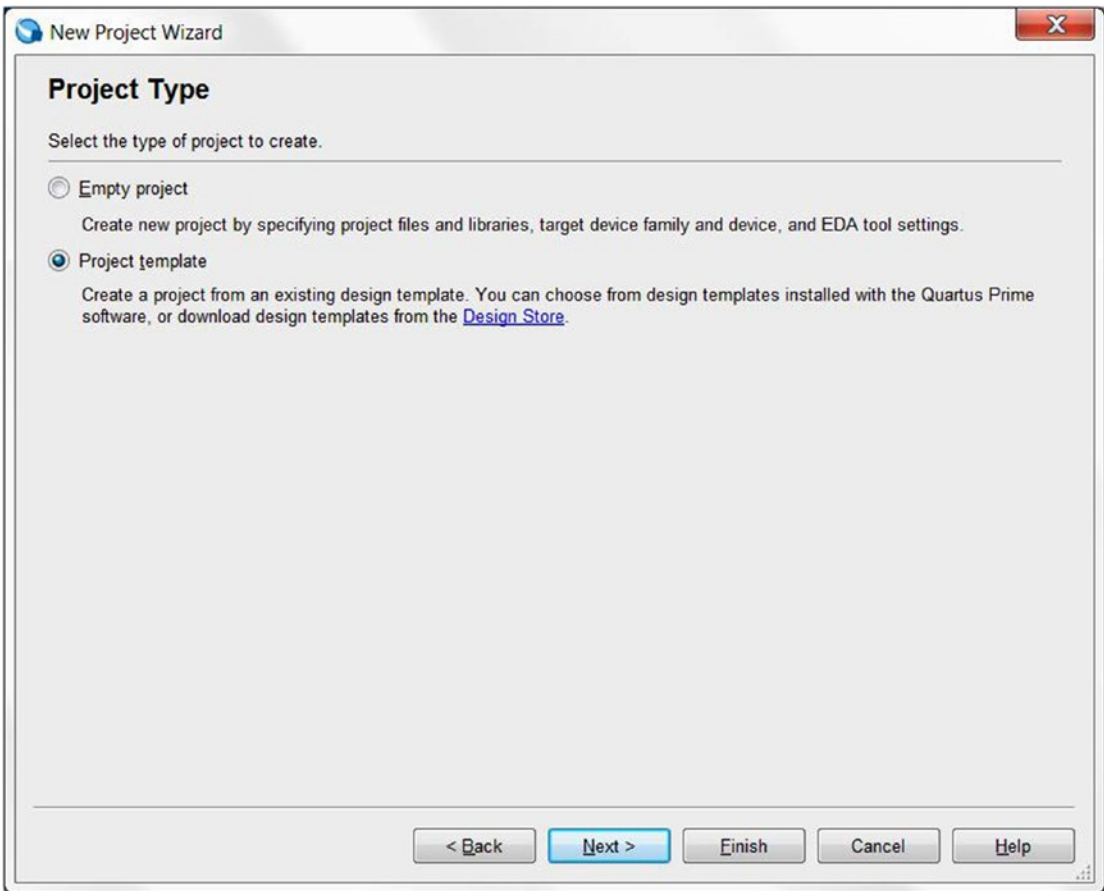
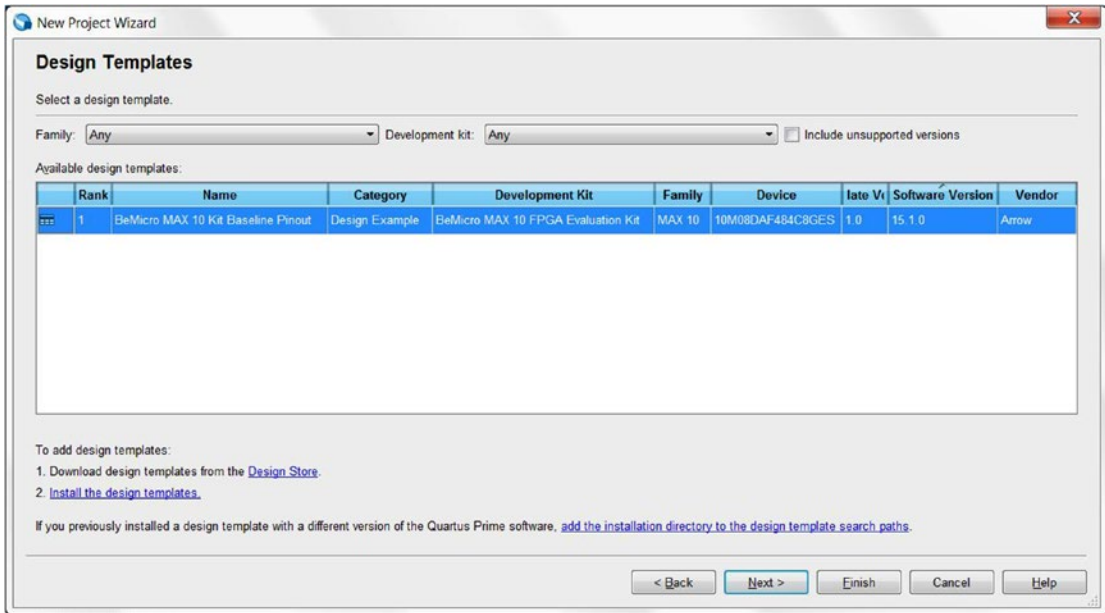

Figure 4-5. Quartus Prime New Project Wizard dialog box—Project Type
Figure 4-12. *New Project Wizard—Design Templates with BeMicroMAX10 kit Baseline Pinout template install*
5. Select **Project template** and then click **Next** (shown in Figure 4-5).
- 13. The design templates page will change from Figure 4-5 to Figure 4-12. Click the **BeMicro MAX10 Kit Baseline Pinout** templates (it should highlight the template) and then click **Next**.